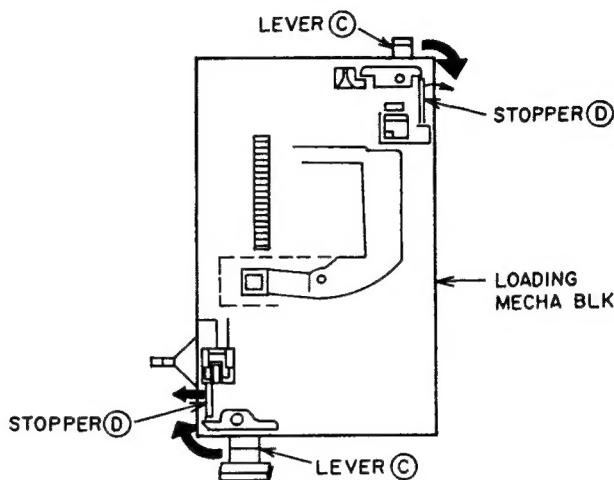

Fig.4-6
- 1) Turn the LEVERS **(C)** while releasing the STOPPERS **(D)** as shown Fig.4-6.